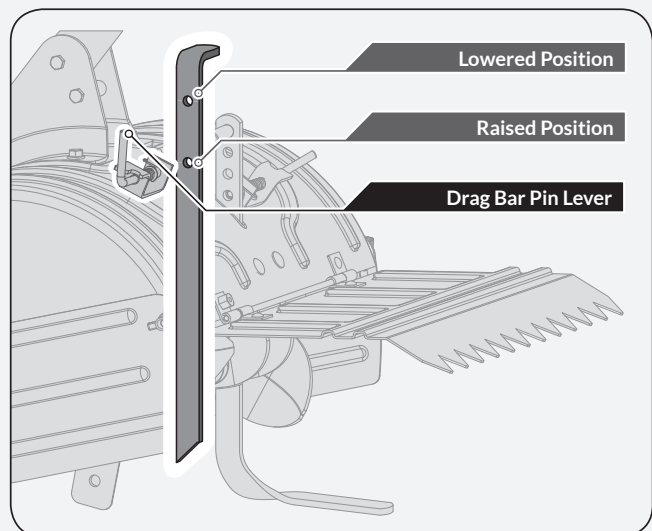

Figure 8
The drag stake (see **Figure 8**) should be raised when tilling in the counter rotating () till position. The drag stake should be lowered when tilling in the forward rotating () till position.
- Move both the depth stake pin lever and the drag stake pin lever to the unlock position (See **Figure 5a, Illustration 2 & Figure 8**). Hold the depth stake limiter to pull the depth stake
up for increasing tilling depth. Place depth stake pin in the hole of the depth stake to lock in position at desired depth. Lower drag stake to the "Lowered position" (See **Figure 8**) and lock it in position.